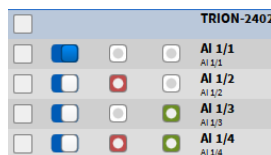

Figure 12-23: Channel transfer and recording combinations
- Figure 12-23 will show the following possible combinations: